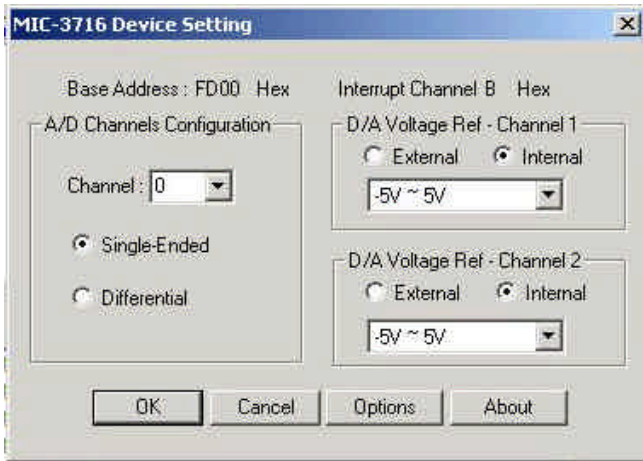

Fig. 2-5: The Device Setting dialog box
Step 4: In the *Device Setting* dialog box (Fig. 2-5), you can configure the voltage source either as External or Internal, and specify the voltage output range for the two D/A channels.